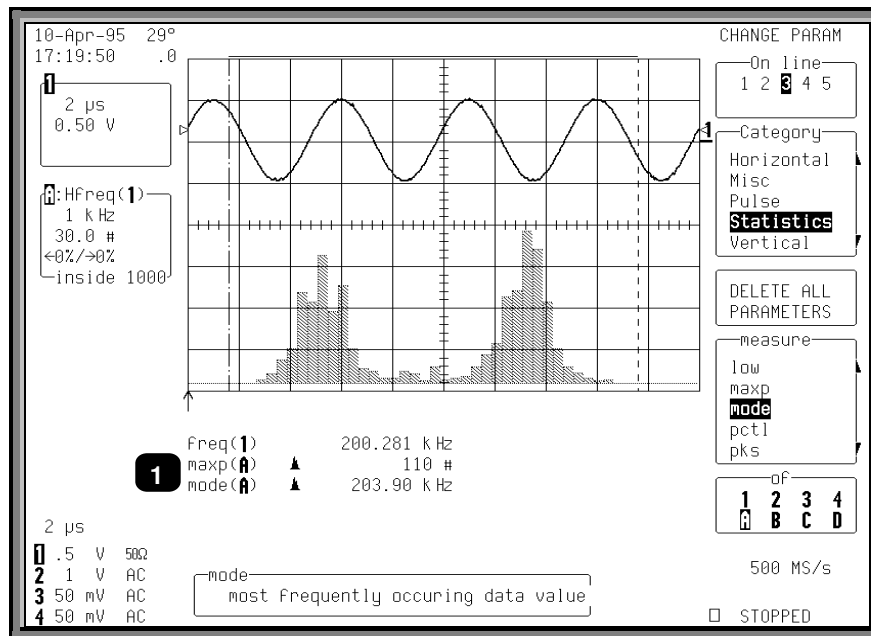

Figure 2.7
6. Press the button to select **CHANGE PARAMETERS** and access the CHANGE PARAM menus (Fig. 2.7).